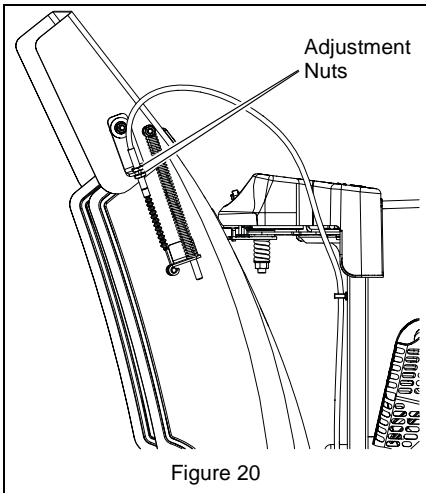

Figure 20
2. Loosen adjusting nuts on cable support bracket on side of chute deflector. (Figure 20).